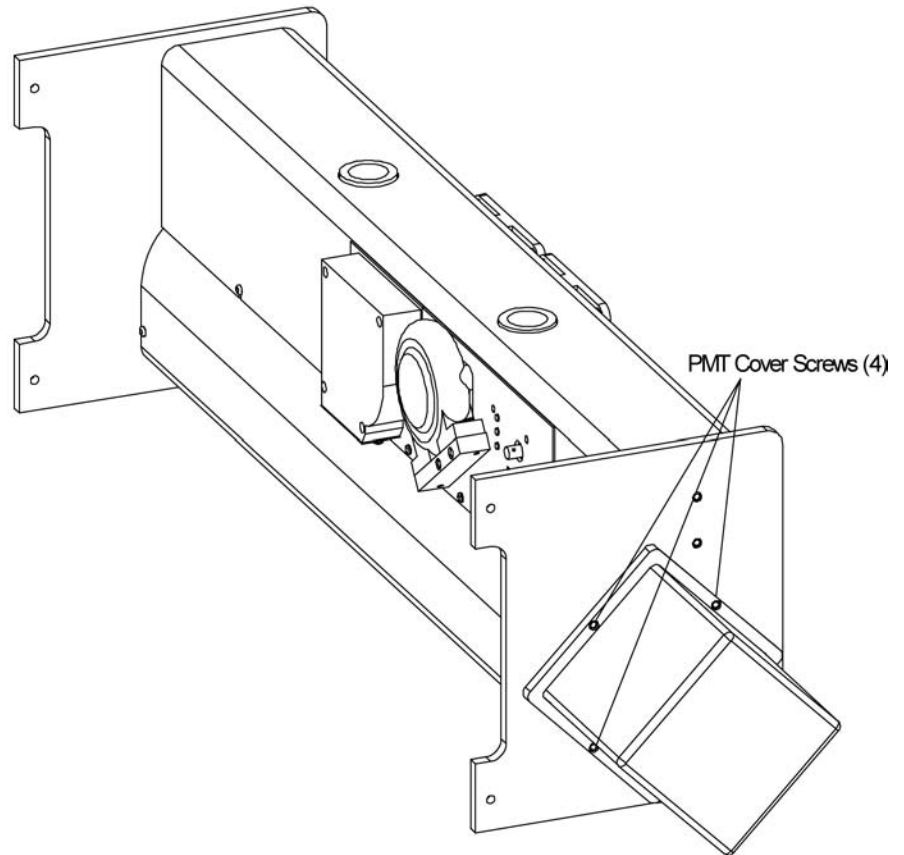

Figure 8-40
2. Remove the PMT cover by unscrewing the four screws attaching the cover to the sensor (Figure 8-40).